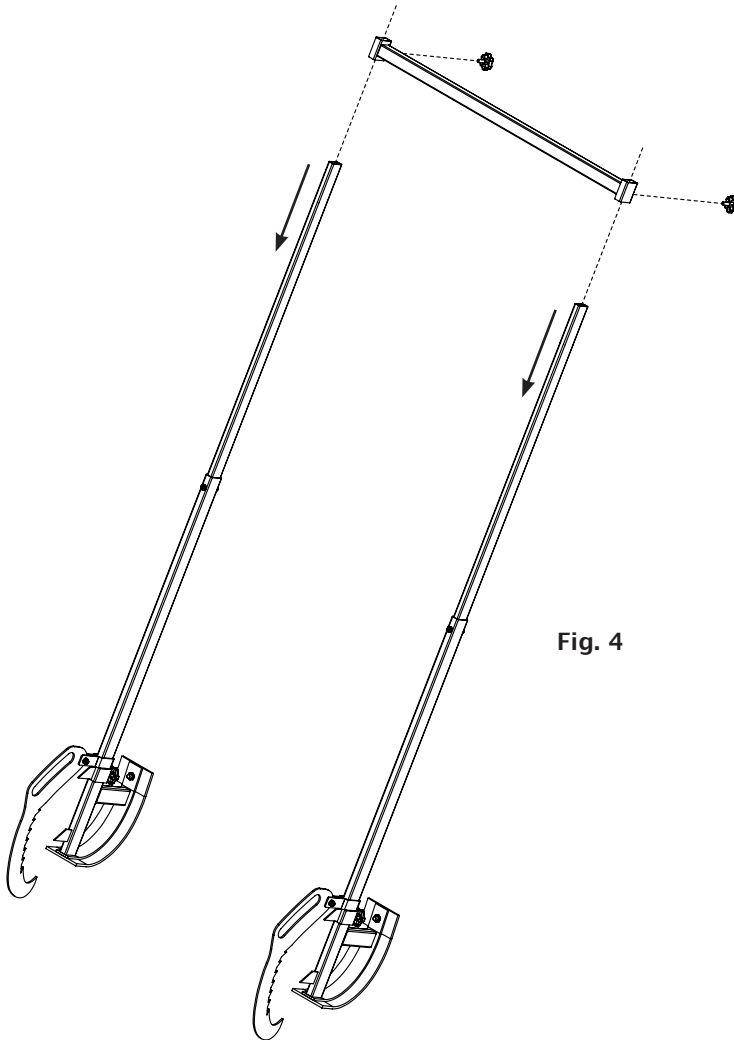

Fig. 4
- Slide the handle (14) over both extending frames (12) so that it forms a brace between them. The distance the handle is positioned down the extending frame is adjustable, however, the further toward the top of the extending frame the greater leverage that can be achieved when lifting logs. Once desired position is found tighten both sides securely with the M8 thumbscrews (6) (Fig. 4).
- Make sure the hooks grip into the wood and then slowly roll the log backward onto the two feet of the frame and continue rolling until the handles rest on the ground, with the log now lifted entirely from the floor (Fig. 4+5).